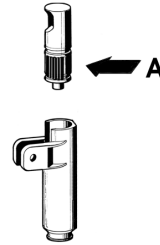

figure 2
- 2 Lubricate the faucet piston (in the area A shown in fig. 2) using food grade approved